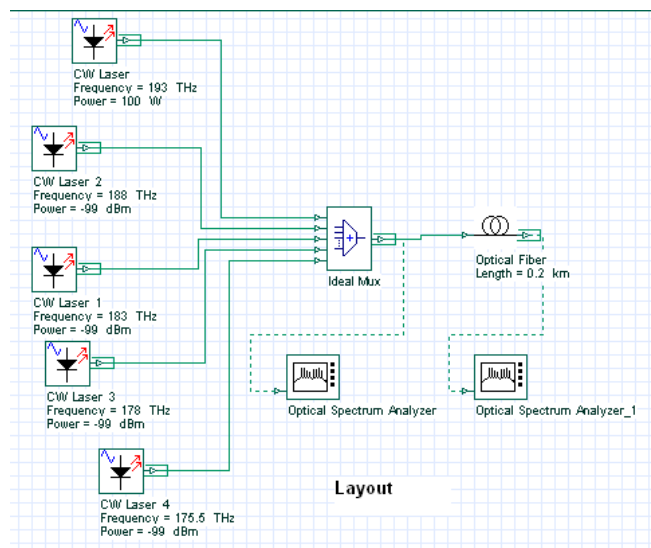

Fig. 5: Layout to demonstrate SRS effect
- a. Connect the optical components as represented in the block diagram Fig. 5.